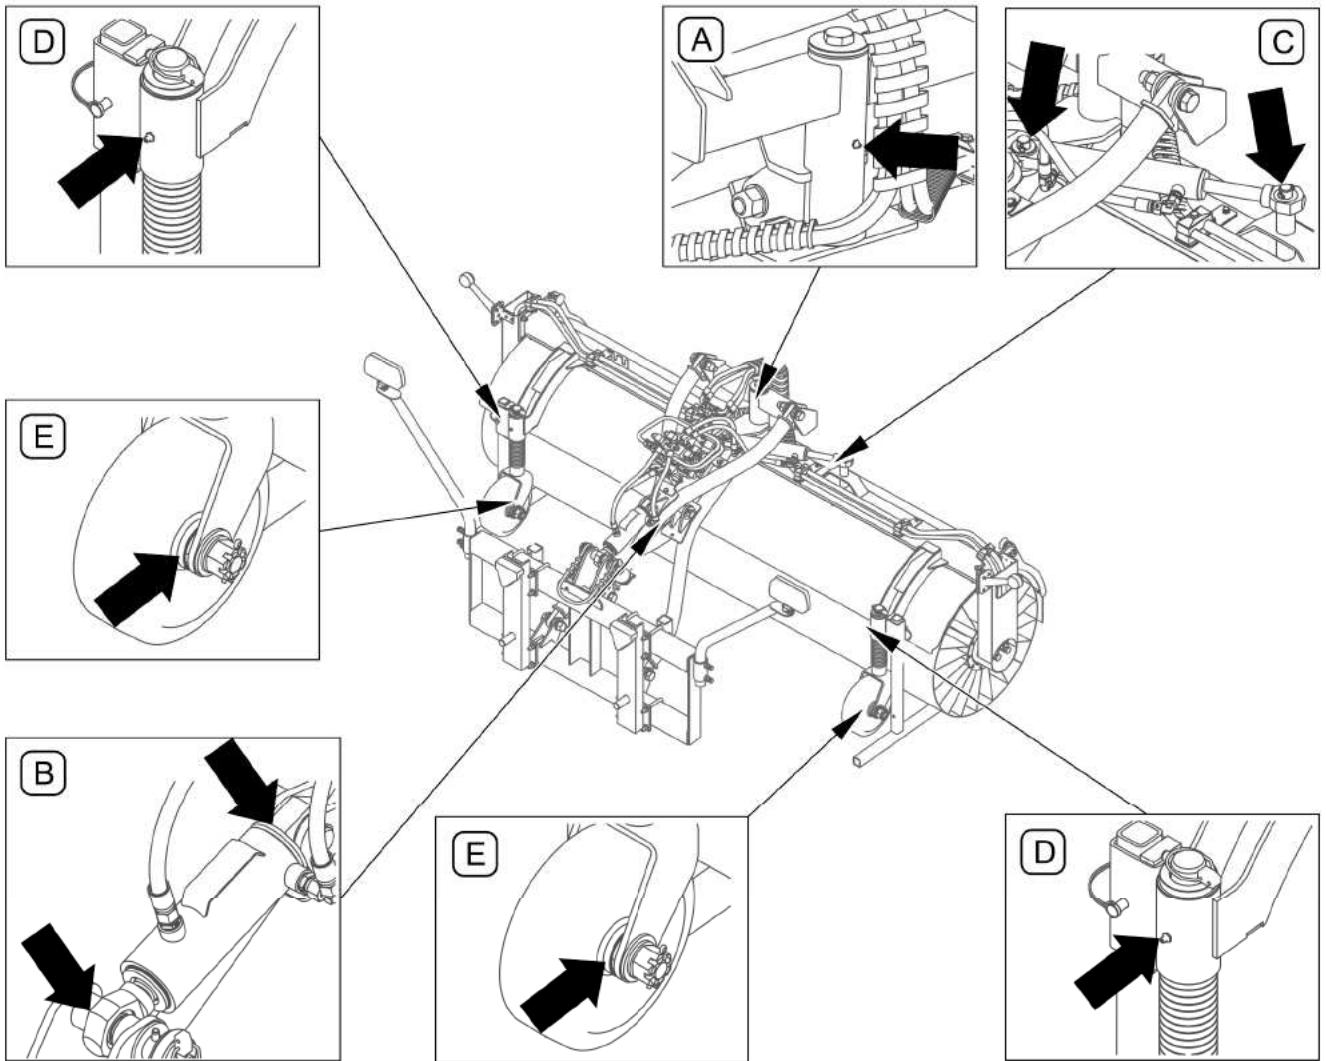

FIG. 5.5 Lubrication points
Marking description in Item column (0) conforms with numbering shown (FIG. 5.5)